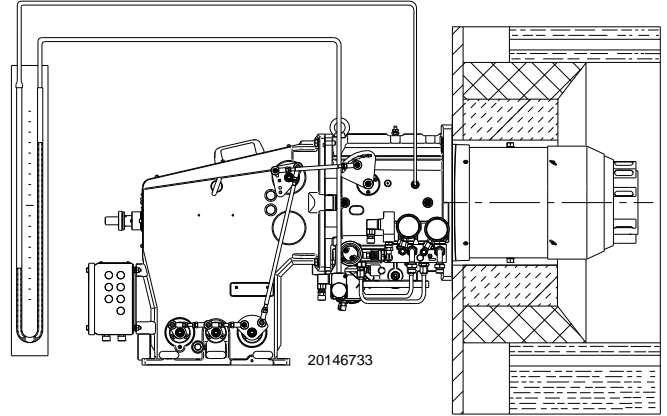

Fig. 34
- Fit a U-type pressure gauge or a differential pressure gauge (Fig. 34), with socket (+) on the gas pressure of the pipe coupling and (-) in the combustion chamber. The manometer readings are used to calculate MAX burner output.
The arrival of the gas at the pipe coupling is shown on the U-shaped pressure gauge (Fig. 34) or else with the help of a digital pressure gauge on the pressure test point under the pipe coupling.